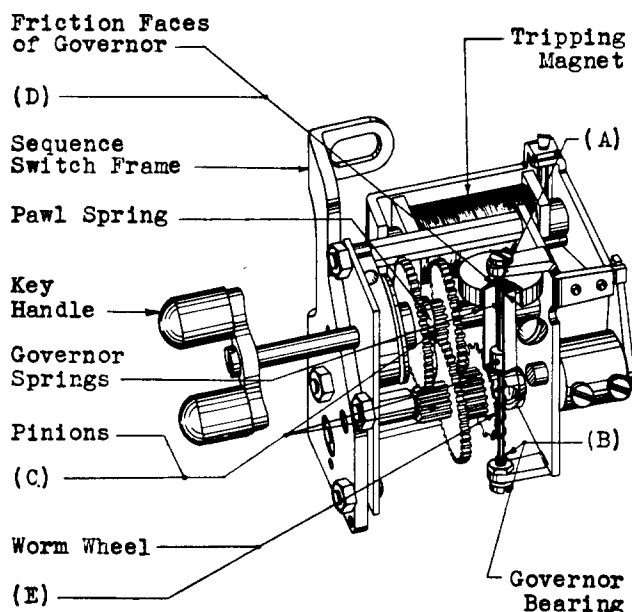

Fig. 1
Both governor bearings — Fig. 1(A) and (B)
Teeth of each pinion — Fig. 1(C)
Friction faces of the governor — Fig. 1(D)
Worm Wheel — Fig. 1(E)